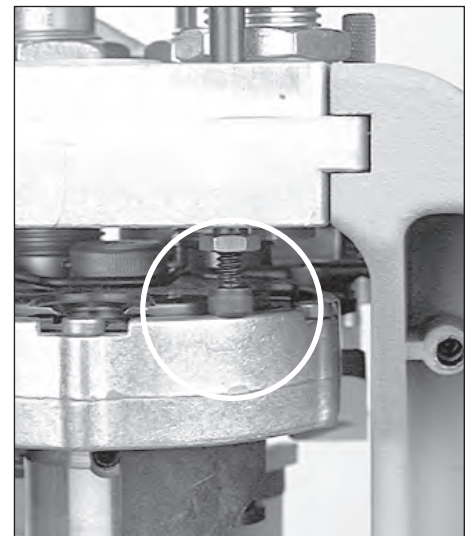
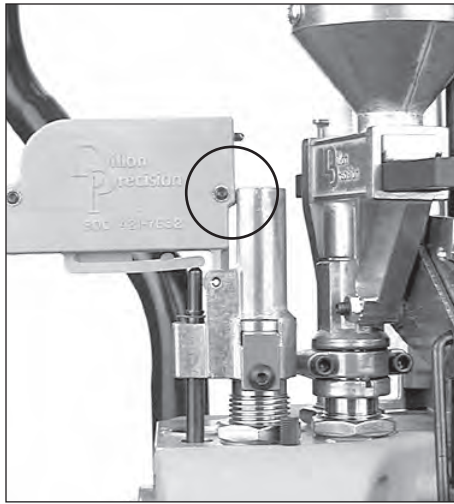

FIG 59
FIG 60
6. **FIG 59** Screw the 10-24 screw and nut fully into the rod. Raise the platform. Unscrew the 10-24 screw until it contacts the edge of the platform **FIG 59**. Lower the platform partway and unscrew the screw (counter-clockwise) until raising the platform causes the buzzer housing to gently rock into the side of the die collar **FIG 60**.